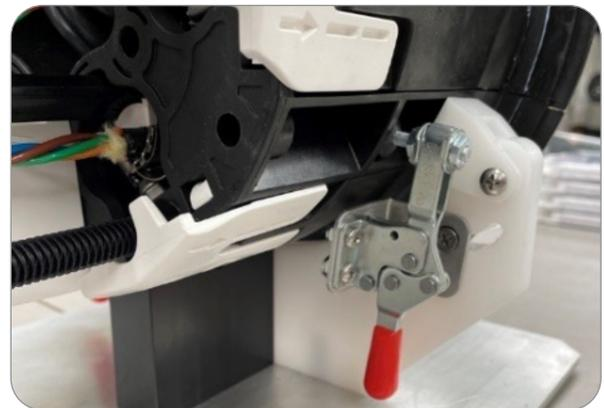

Figure 7 – Locking Clamp Engaged on Apex Base
- Once the closure is placed in the Installation Stand – with proper alignment of the Cradle Support, Slotted Wedges and Basket Support Arm tabs – the two Locking Clamps engagement pins should be placed in contact with the Apex base before being locked by pushing the red handles inward. The clamp pins must be first be in full contact with the Apex base to lock into place. (**Figure 7**).